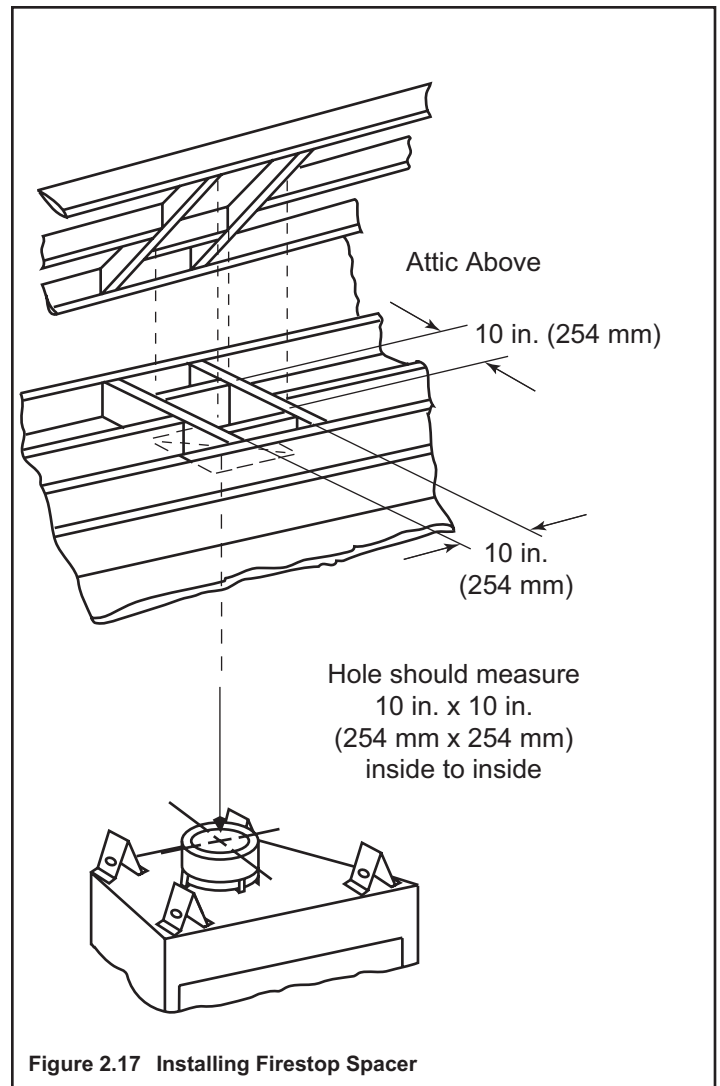

Figure 2.17 Installing Firestop Spacer
- Frame an opening 10 in. by 10 in. whenever the vent system penetrates a ceiling/floor (see Figure 2.17).